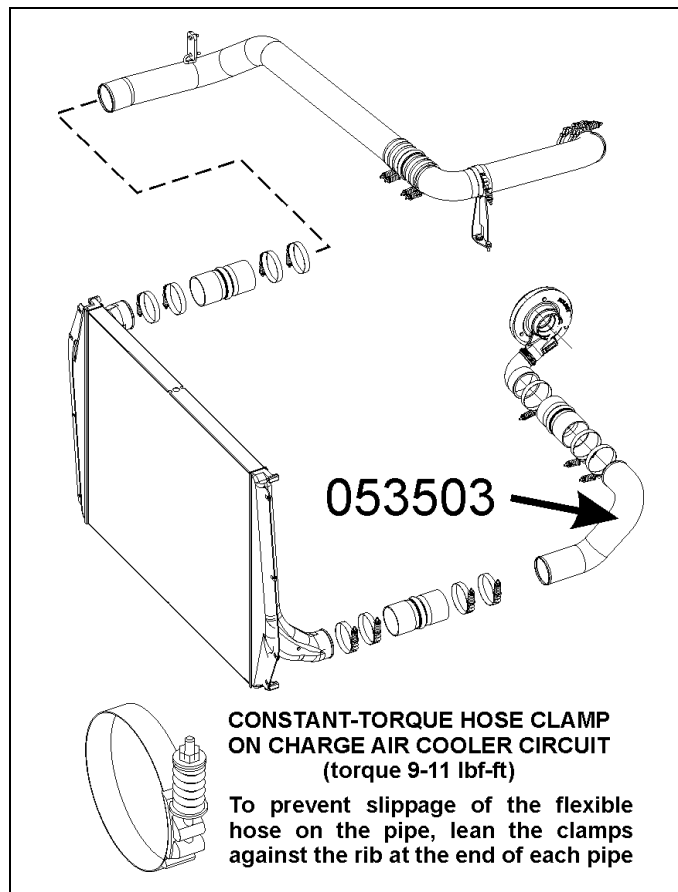

FIGURE 2: CONNECTING PIPE
5. Torque hose clamps to 9-11 lbf-ft (Refer to figure 2).